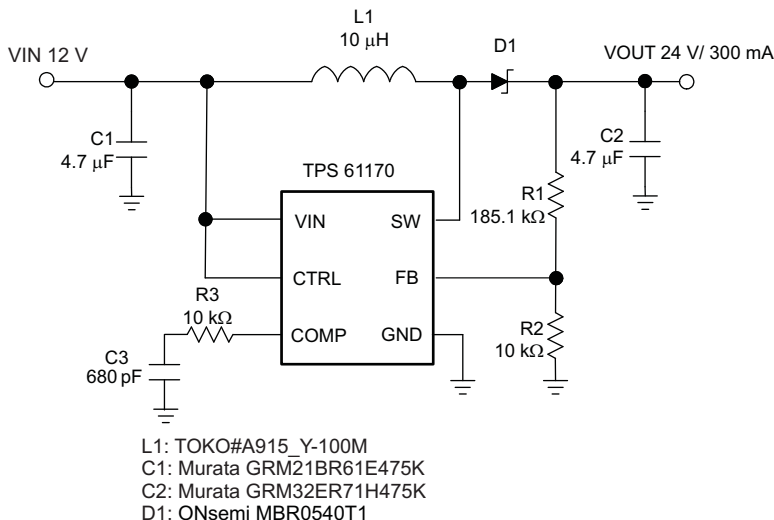
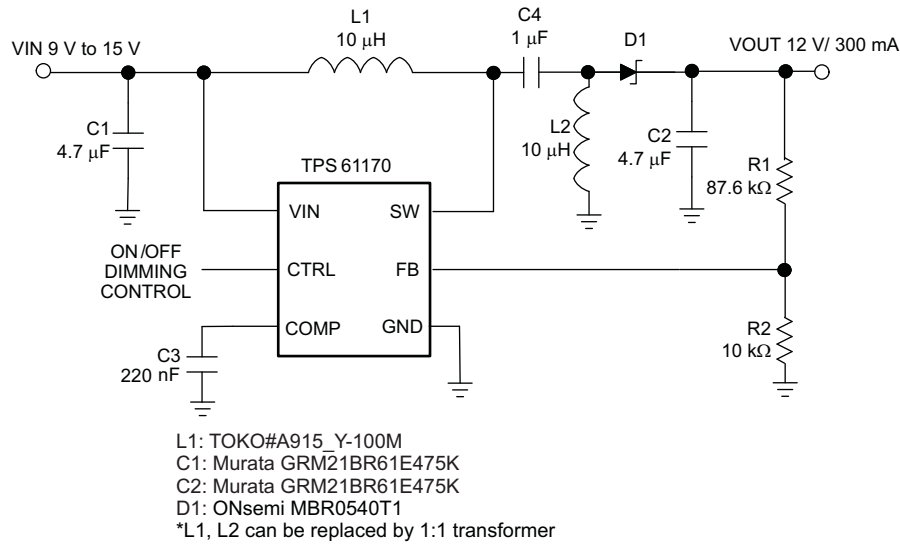
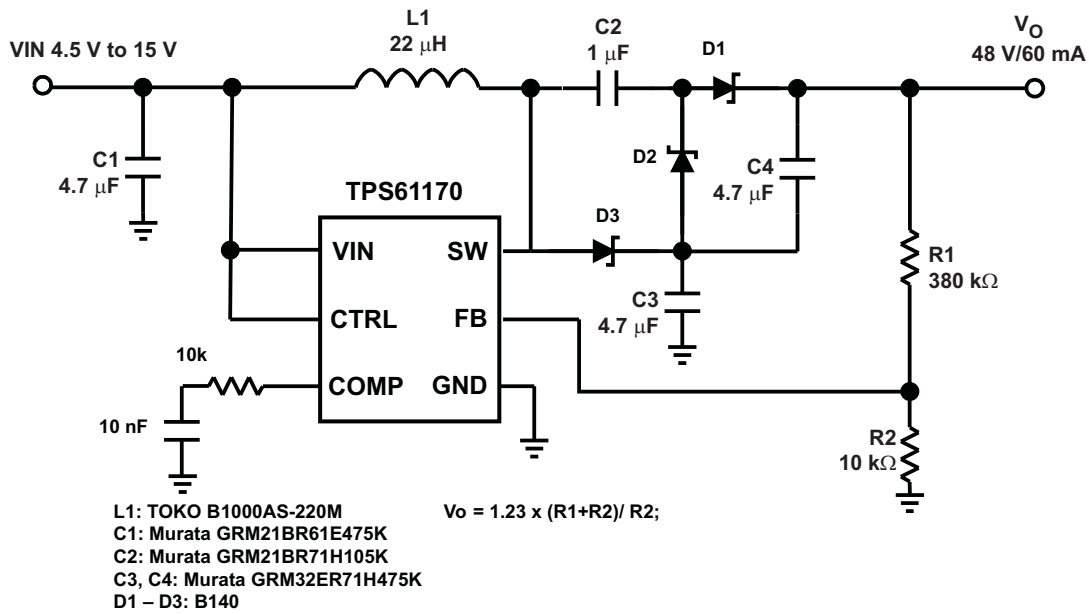

Figure 19. 12V to 24V DCDC Power Conversion
Figure 21. 12V SEPIC (Buck-Boost) Converter
Figure 22. 48V Phantom Power Application Circuit
- Changed C1 part number in Figure 19, Figure 21, and Figure 22 from "GRM188RA475K " to "GRM21BR61E475K" ..... **19**